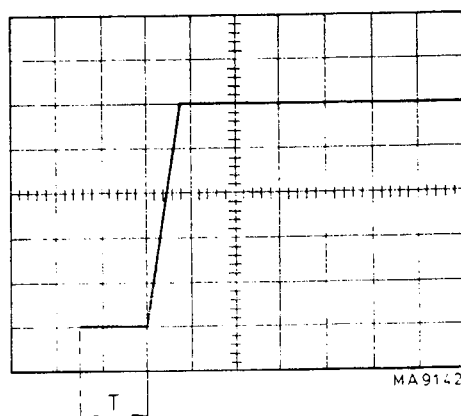

Fig. 3.12. Effective signal delay
- Check that the effective delay time T is larger than 1 division, see fig. 3.12.